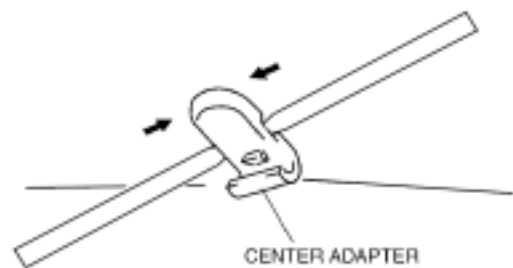

FIGURE 14
- 3.) PRESS THE SUNVISOR CENTER ADAPTOR TABS AS SHOWN IN THE FIGURE USING TWO FIBER STICKS, AND REMOVE THE CENTER ADAPTOR. (SEE FIGURE 14)